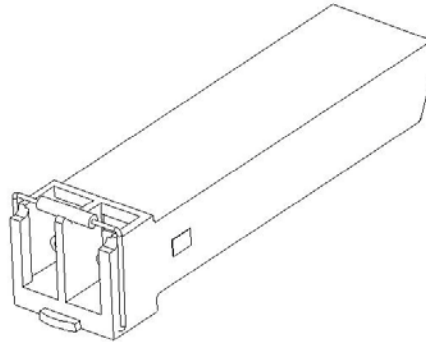

Figure 16 Gigabit SFP Optical Module
- Figure 16 shows an example of a Gigabit SFP optical module